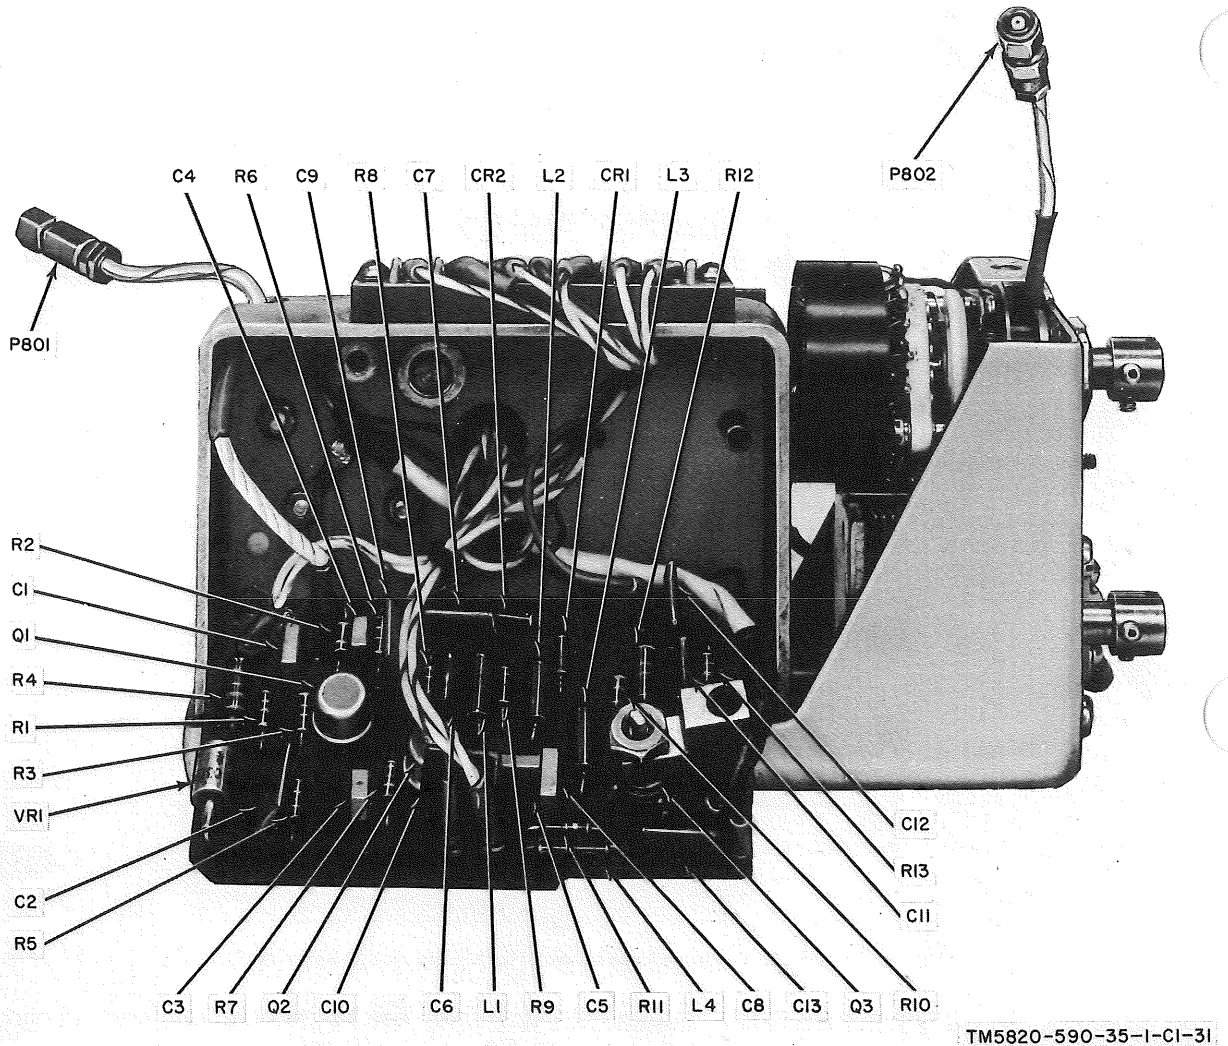

Figure 4.1-4. Power amplifier module, right-hand side.
(2) Turn on all the power supplies.
(3) Set the AN/GRM-50 for an output of 6 mc at 20 to 40 mv.
(4) Connect Multimeter ME-26B/U between the yellow primary winding of transformer T1 and ground. The ME-26B/U indication shall be approximately 2.1 volts ac.
(5) If the ME-26B/U indication obtained in (4) above is low, check for defective components in the preamplifier. Approximate emitter voltages of Q1, Q2, and Q3 (fig. 4.1-4)
(9) Multimeter No. 3 shall indicate less than 100 ma.
(10) If the multimeter indication ((9) above) is greater than 100 ma, check for a defective transistor Q4 or Q5 (fig. 4.1-3), or bias network R12, R13, and R14 (figs. 4.1-4 and 4.1-3).
(11) If no current flow is indicated ((9) above) check for defective components in the Q4 and Q5 circuits.